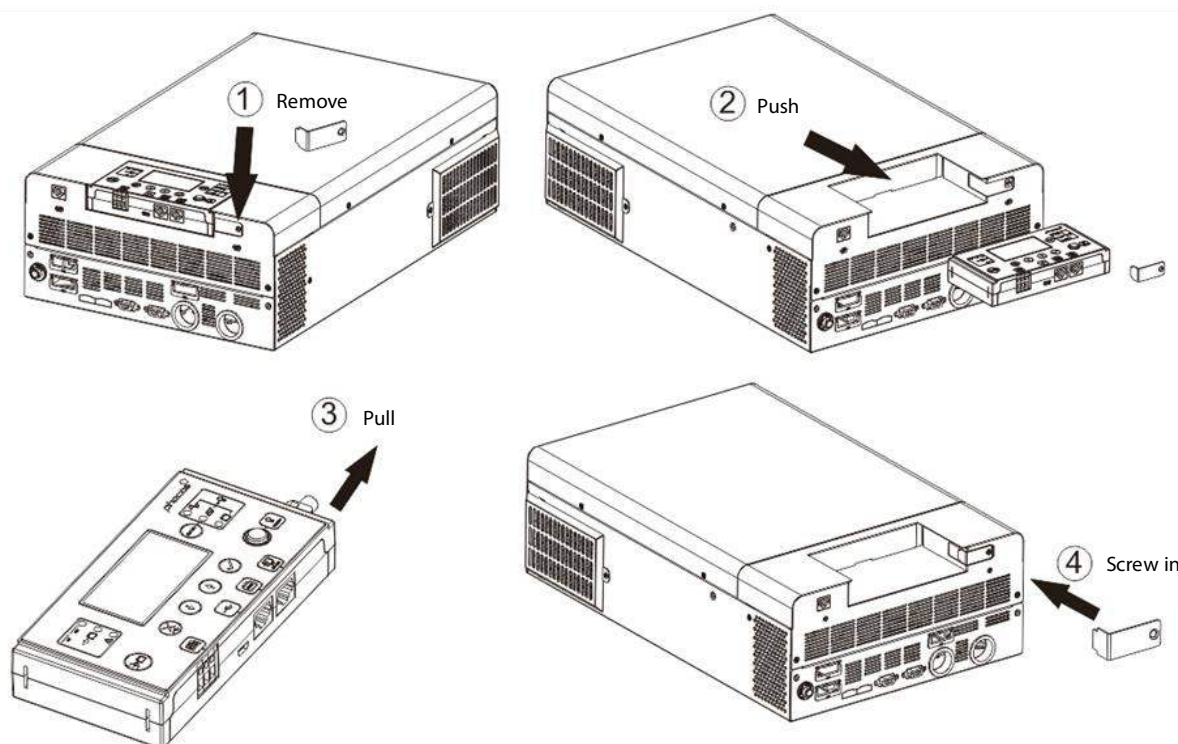

Fig. 11: Remote display removal
1. Remove the screw holding the bracket on the bottom of the display module (**Fig. 11** → ①) and push down the display unit from the case slightly while removing the metal bracket.
2. Keep pushing the display module down, taking care not to damage the connected cable (**Fig. 11** → ②).
3. Remove the cable connected to the display module (**Fig.11** → ③).
4. Screw the bracket removed in **Fig.11** → ① back in place (**Fig.11** → ④).